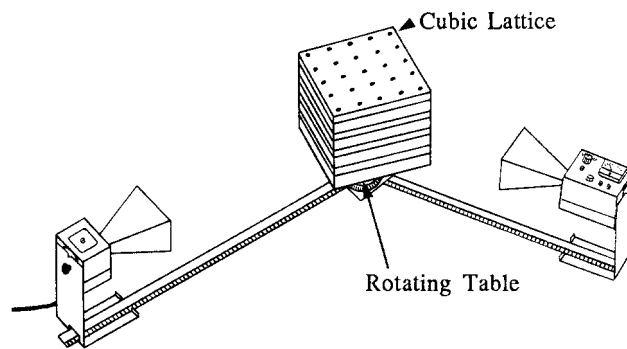

Figure 16: Equipment Setup
1. Arrange the equipment as shown in figure 16.